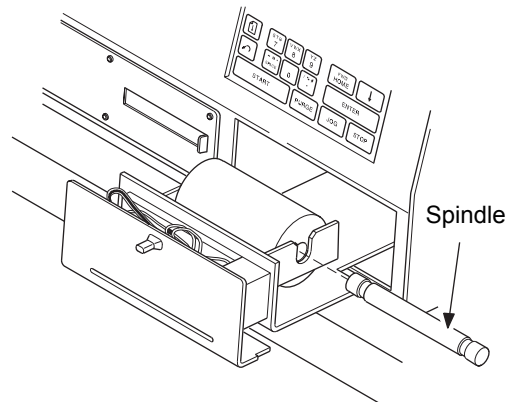

Figure 77 Install Paper
4. Install the new roll of thermal paper and load the paper into the feed mechanism. See Figure 77.